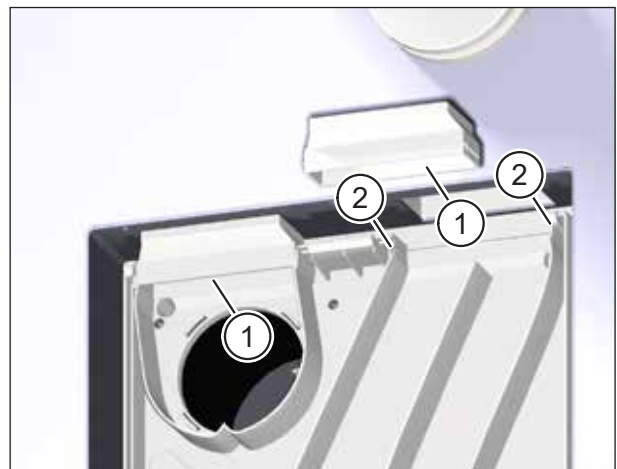

Fig. 13: Clean duct adapters (for U² integrated into wall installation only)
- ▶ Clean the duct adapters (item 1 in Fig. 13) with a damp cloth and mild soapy water.
You can take out the duct adapters if necessary. To do this, carefully push the two retainers (item 2 in Fig. 13) outwards and pull the duct adapters forward.